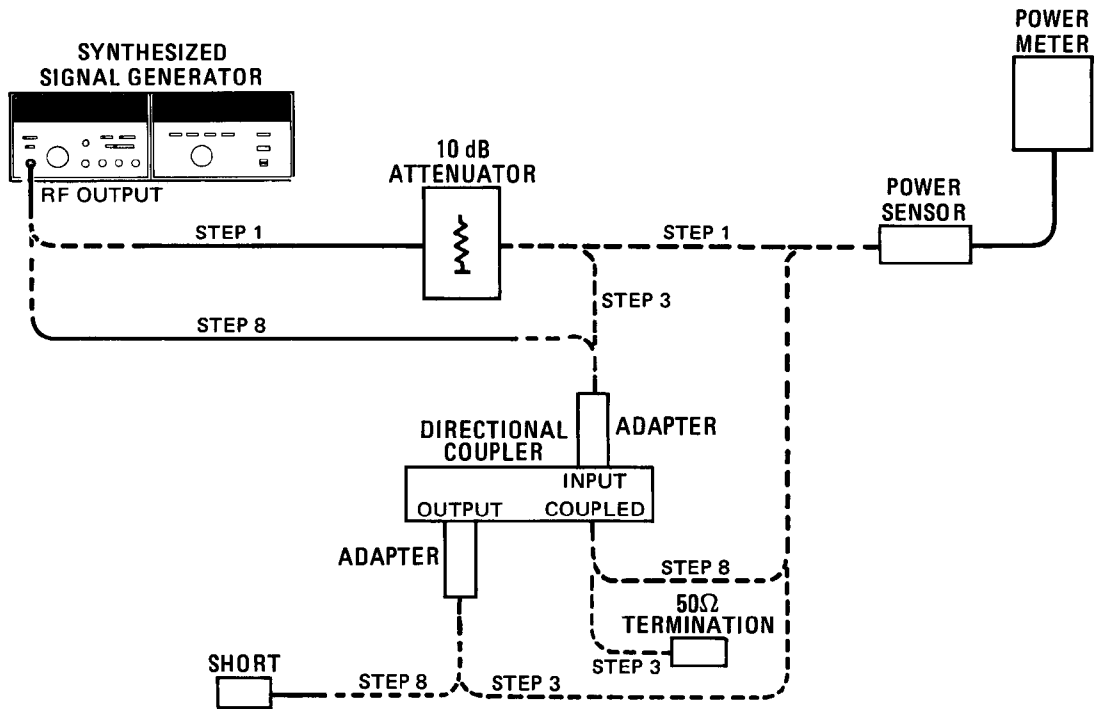

Figure 4-2. SWR Test Setup
1. Set Synthesizer's controls for an output of 3 GHz at -12 dBm, connect the 10 dB attenuator to Synthesizer's RF OUTPUT connector and measure the power output with the power meter. See Figure 4-2, Step 1. 3 GHz _____ dBm
3. Connect the equipment as shown in Figure 4-2 (step 3).
- 8. Connect equipment as shown in Figure 4-2 (step 8).